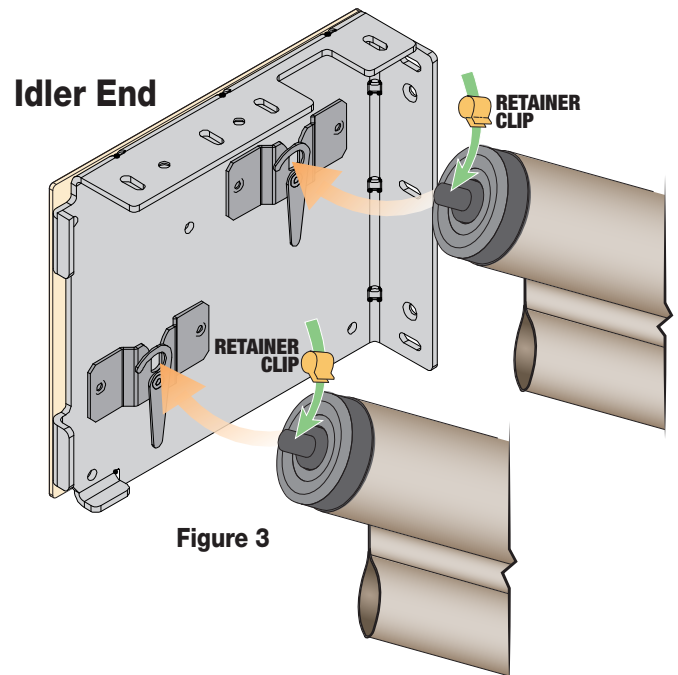

Figure 3
7. Slide notched pin into idler endcap. Secure with retainer clip and lock into place with rotating idler lock. (Fig. 3)